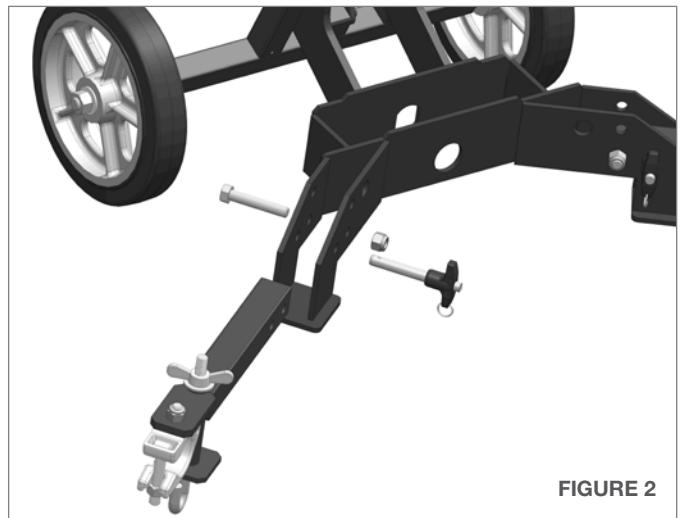

FIGURE 2
2. Install the supplied 1/2" Bolt and Lock Nut as shown in **(Figure 2)**. Insert Quick Release Pins where shown after bolts are tightened and range of motion is tested.
2. Insert the Downrigger Leg Assembly and secure with the 1/2" Bolt, Lock Nut, and Quick Release Pins as shown in (**Figure 2**).
Place the Gearbox Assembly on the Mounting plate as shown in **(Figure 1)**. Install Wedge Bolt through both inboard and outboard plates and the Gearbox Assembly on the Cart Weldment before tightening. **\*\*NOTE: Orient Wedge Bolt flats as shown in (Figure 2).**